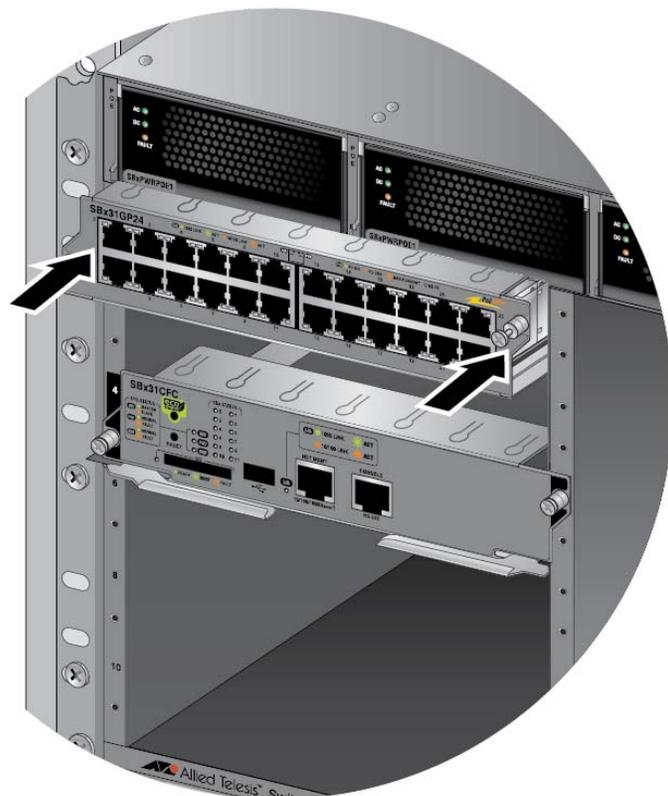

Figure 76. Seating an Ethernet Line Card on the Backplane Connector
6. When you feel the line card make contact with the connector on the backplane of the chassis, gently press on both sides of the faceplate to seat the card on the connector. Refer to Figure 76.